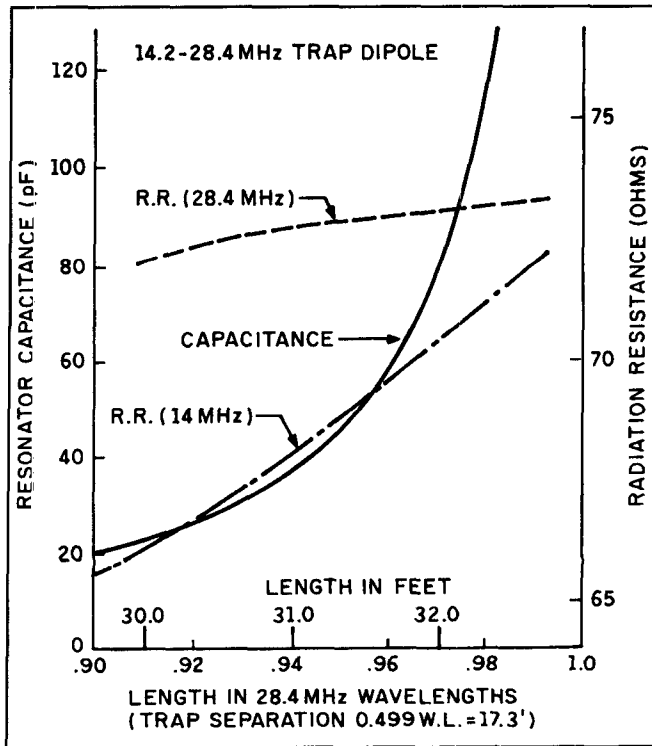

Figure 10. Properties of a 14 to 28-MHz "trap" dipole as a function of length, as calculated by ONETWORES.
**Figure 10** is a plot of various "trap" antenna quantities for 14.2 to 28.4 MHz as a function of length, as calculated by the computer. The resonators, according to this design, are 0.5 wavelength apart. At FL the resonators don't constitute true short circuits, as is usually assumed, but, with reference to **Figure 7B**, low inductive reactances. Therefore, in accordance with **Figure 7C**, the length must be reduced slightly to compensate. A graph of the computed resonator frequencies would be a horizontal line at very near to 28.4 MHz, as expected. However, as the length changes the necessary L/C ratio changes. The steep slope, near a length of 0.99, implies a condition of instability: a small error in one of the parameters causes a big change in performance. Such a small error might not lie in the design, but be due to some environmental effect like moisture or a change in location. This instability is connected with the fact that if the length exceeds 1.0 by a small amount, the situation becomes a Type 4, and double resonance cannot be obtained. Therefore this situation must be avoided, and in practice the length should not exceed 0.95 FU wavelengths.